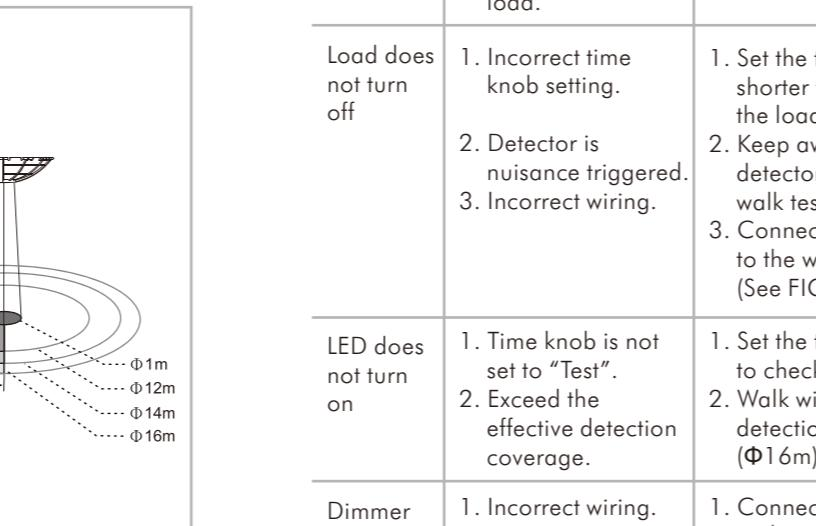

FIG.18
- 4.4.2 Fixing lens shield: There is circular hook on the back of the decorative frame and the lens shield is designed with a circular groove. The lens shield can be fitted by joining the groove of lens shield with its corresponding hook on the decorative frame (See FIG.18).